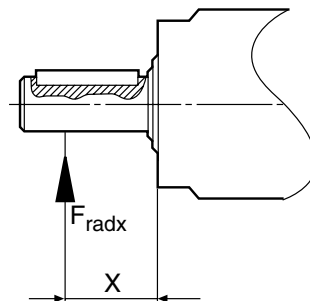

Fig. 4: Force applied at distance X
- The force is applied at a distance x , as in figure 4. This value can be calculated as follows: